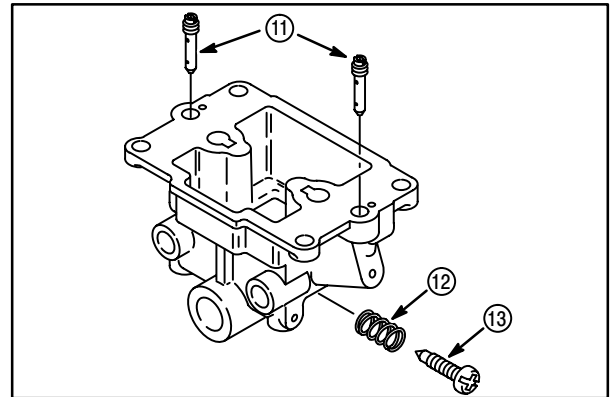

Fig. 63
- Remove pilot jets (11), **Fig. 63**.
- Remove float bowl drain screw (13) and spring (12).